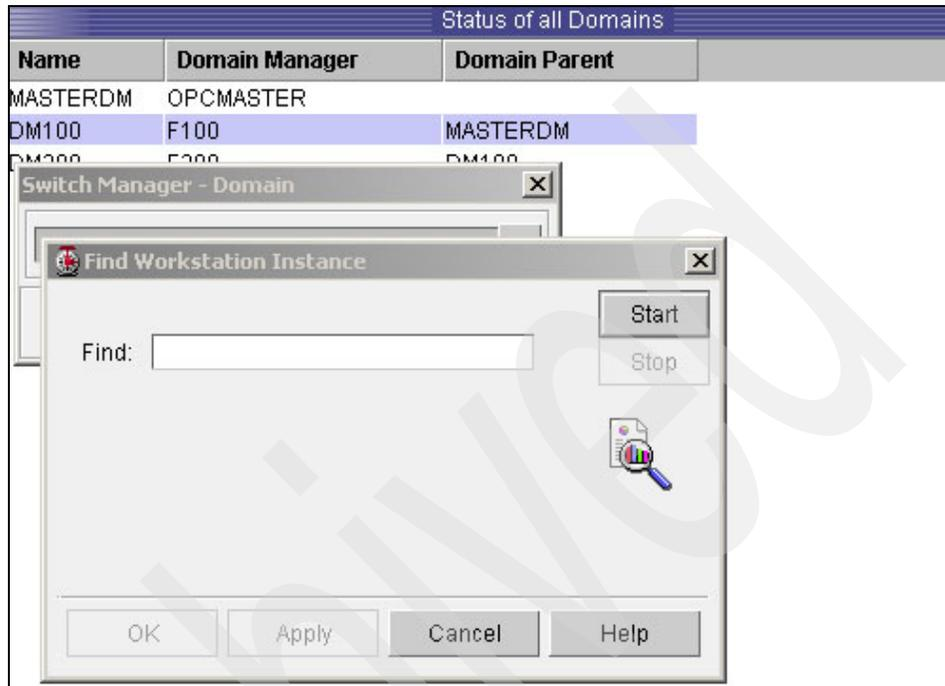
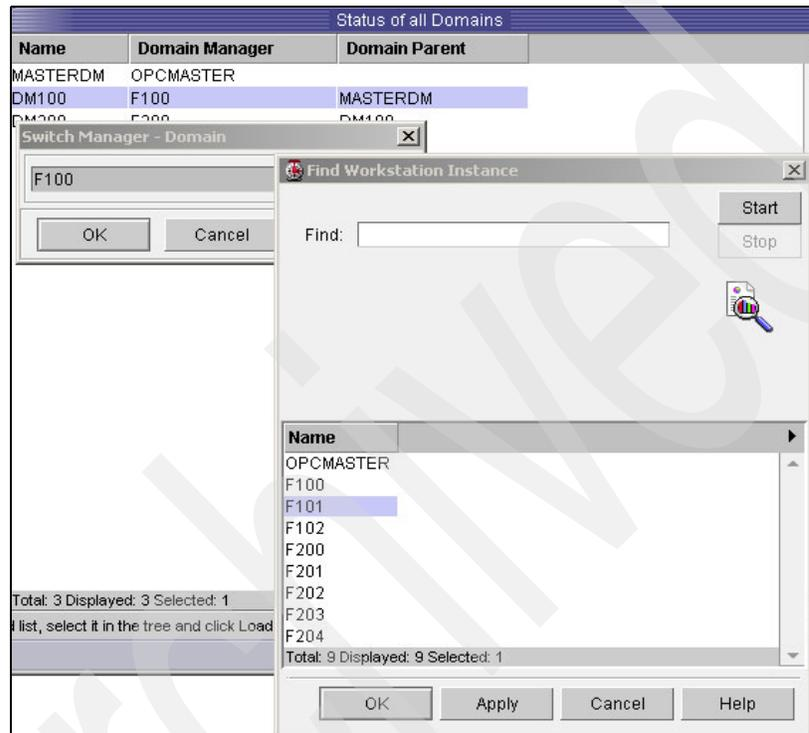

Figure 17-12 JSC Find Workstation Instance window
Figure 17-13 The result from Find Workstation Instance
- JSC opens the Find Workstation Instance pop-up window (Figure 17-12).
- JSC opens the Find Workstation Instance pop-up window that lists all of the fault-tolerant workstations in the network (Figure 17-13). If we had specified a filter in the Find field shown in Figure 17-12 on page 575, this filter would be used to narrow the list of workstations that are shown.